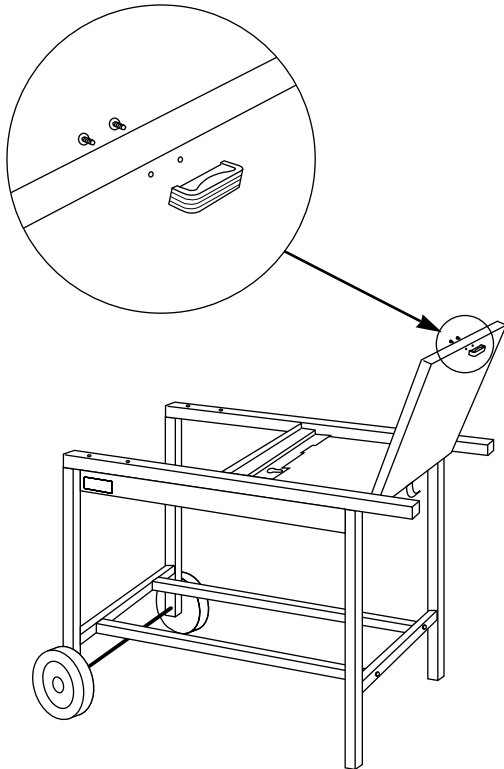

Figure 6
**Remove twist tie and protective plastic covering from CharBin lid.** Lift open lid. Insert screws through holes from inside of lid into handle. Tighten screws. Figure 6.